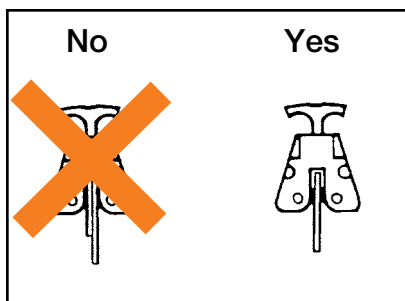

Figure 51
**⚠ WARNING!: Do not lift more than one plate (Fig. 51).**
**⚠ WARNING!: All personnel must stand clear of loads while they are being lifted or moved, except for operators of manually lifted hand grips (Fig. 51).**